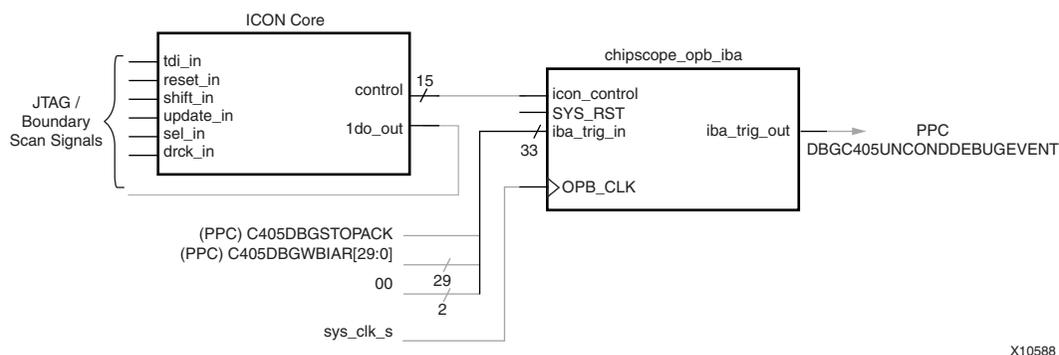

Figure 9-4: Debug Configuration Wizard Automatic Connections
Notice in Figure 9-4 and in the MHS code snippet, above, that the `C405DBGSTOPACK`, along with the `C405DBGWBIAR`, are trigger inputs (`iba_trig_in`) to the IBA core. `C405DBGWBIAR` is considered the address of the current instruction because the instruction address continually advances by four; as a result, the last two bits of the instruction are 0.
3. Set the `TriggerCondition0` Output Enable to **Pulse (high)**. As described earlier in Figure 9-4, page 77, when the trigger condition is encountered, the `DBG_C405_UNCOND_DEBUGEVENT` signal is pulsed high, which stops the processor.